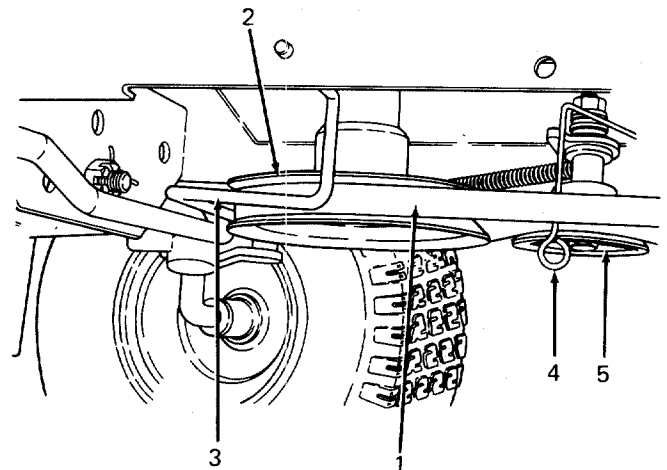

Figure 51
6. With the PTO engagement lever in the "OFF" position, install the PTO drive belt while working from the left side of the tractor. Push the engine drive pulley belt guard upward and toward the front of the tractor to allow the belt to be installed on the engine drive pulley. (Refer to Figure 51.)
7. To install the PTO drive belt to the idler pulley, pull the loop on the idler pulley belt guard away from the idler pulley. Slide the belt onto the idler pulley and release the idler pulley belt guard. (Refer to Figure 51.)